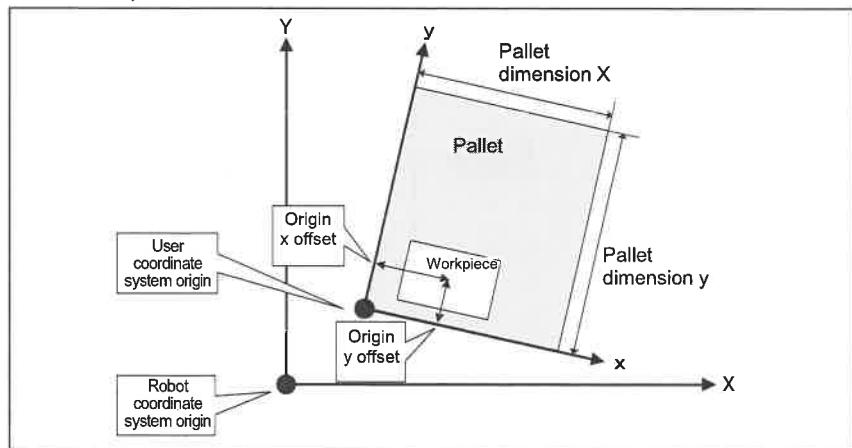

Fig. 4.5.1 Pallet dimensions ("Scale") and origin point offset
- 5 Align the cursor with "Origin offset," and specify how far away the loading (unloading) point of the first workpiece is to be distanced from the user coordinate origin. (Refer to Fig. 4.5.1.)**